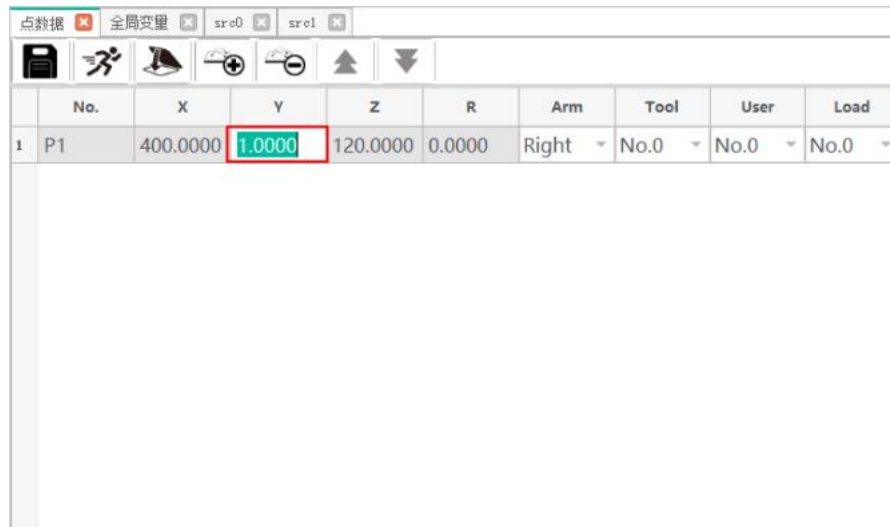

Figure 1.41 Modify the teaching point information
- You can select a taught position and double-click the parameters on the line to modify the relevant information, as shown in Figure 1.41.